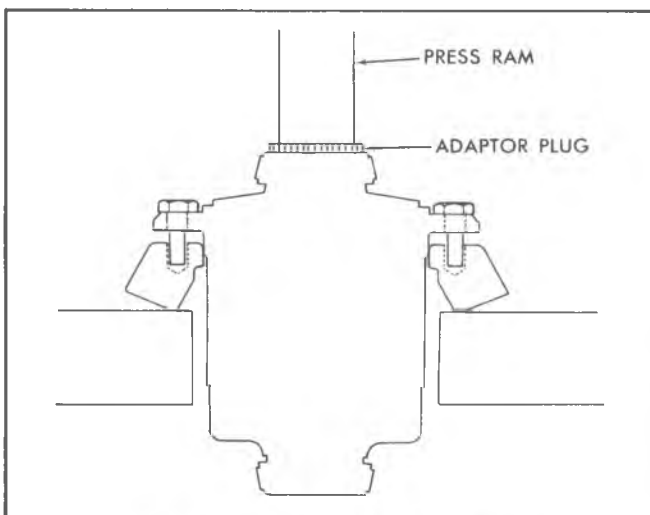

Fig. 5B—Ring Gear-to-Case Installation
3. Liberally coat the differential case pilot with hypoid lubricant. Pre-align ring gear and differential case bolt holes, and press on adaptor plug J-8107-4 to initially start ring gear on case pilot, as shown in figure 5B.